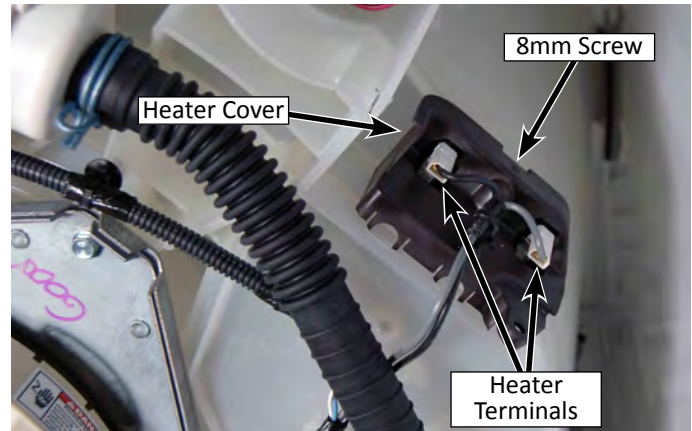

Figure 2
1. Disconnect harness (2 terminals) from the Heater Assembly (see Figure 2).
2. Remove the 8mm hex-head screw securing the heater cover to the tub. Remove heater cover from washer (see Figure 2).